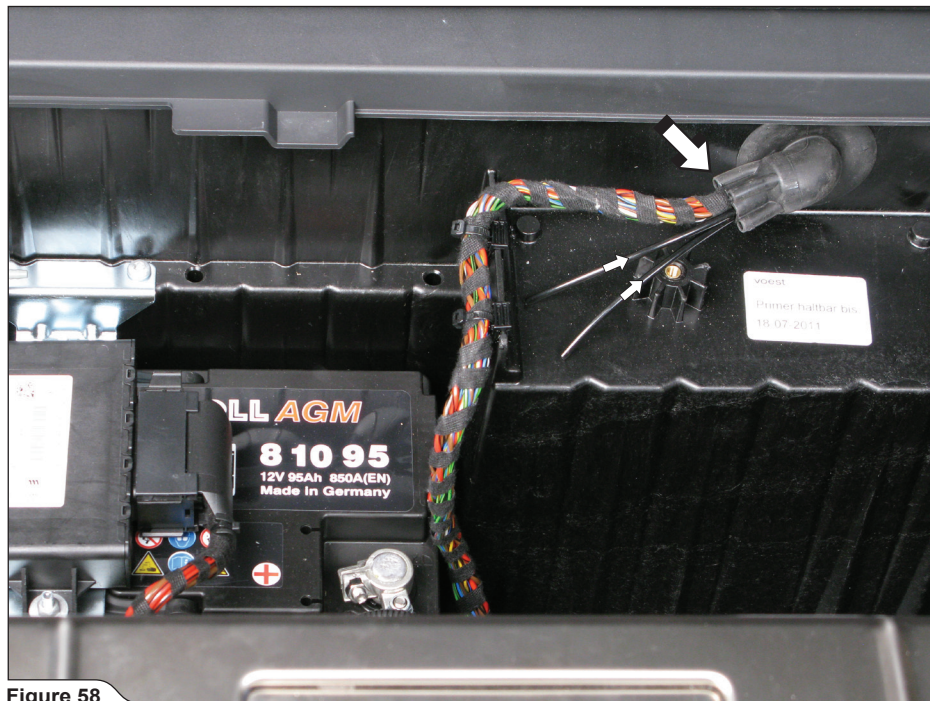

Figure 58
6. Insert the two PVC vacuum tubes from Akrapovič installation kit, through marked harness rubber grommet (**Figure 58**).